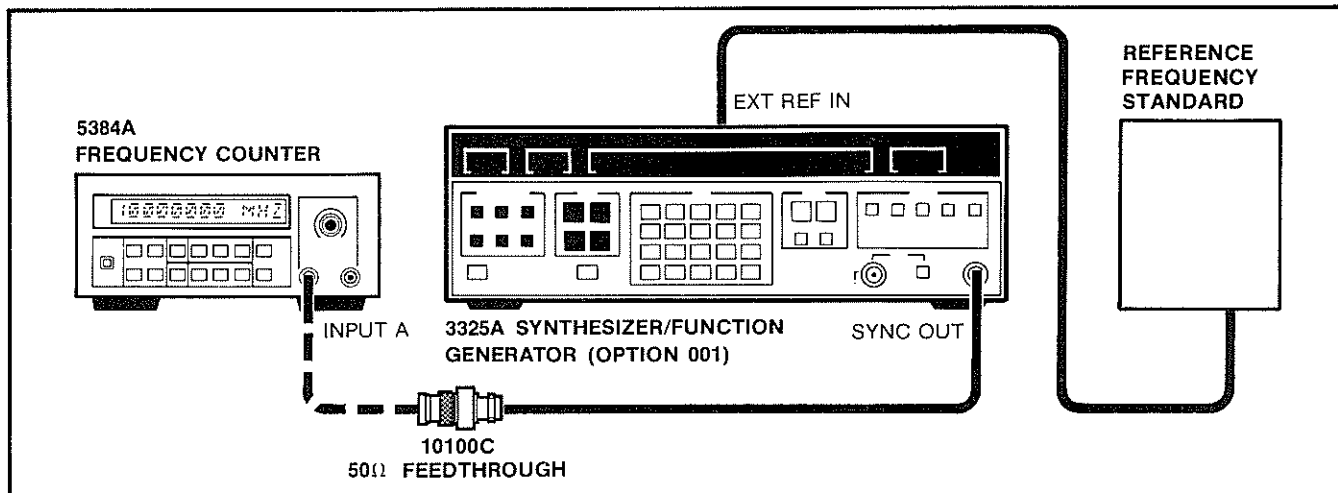

Figure 5-4. Standard Oscillator Adjustment Test Setup
- a. Connect the 3325A Synthesizer/Function Generator as shown in Figure 5-4.